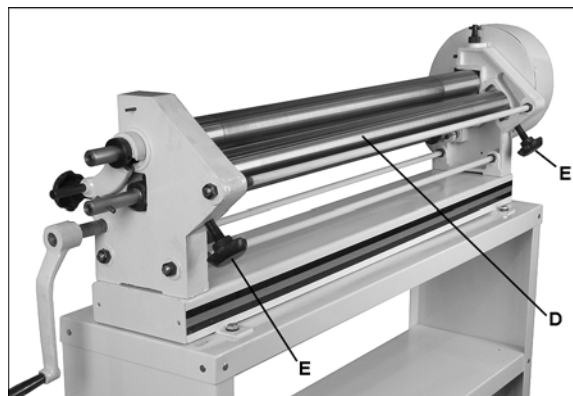

Figure 2
1. The rear roll (D, Figure 2) can be adjusted to control the radius by turning adjustment knobs (E).